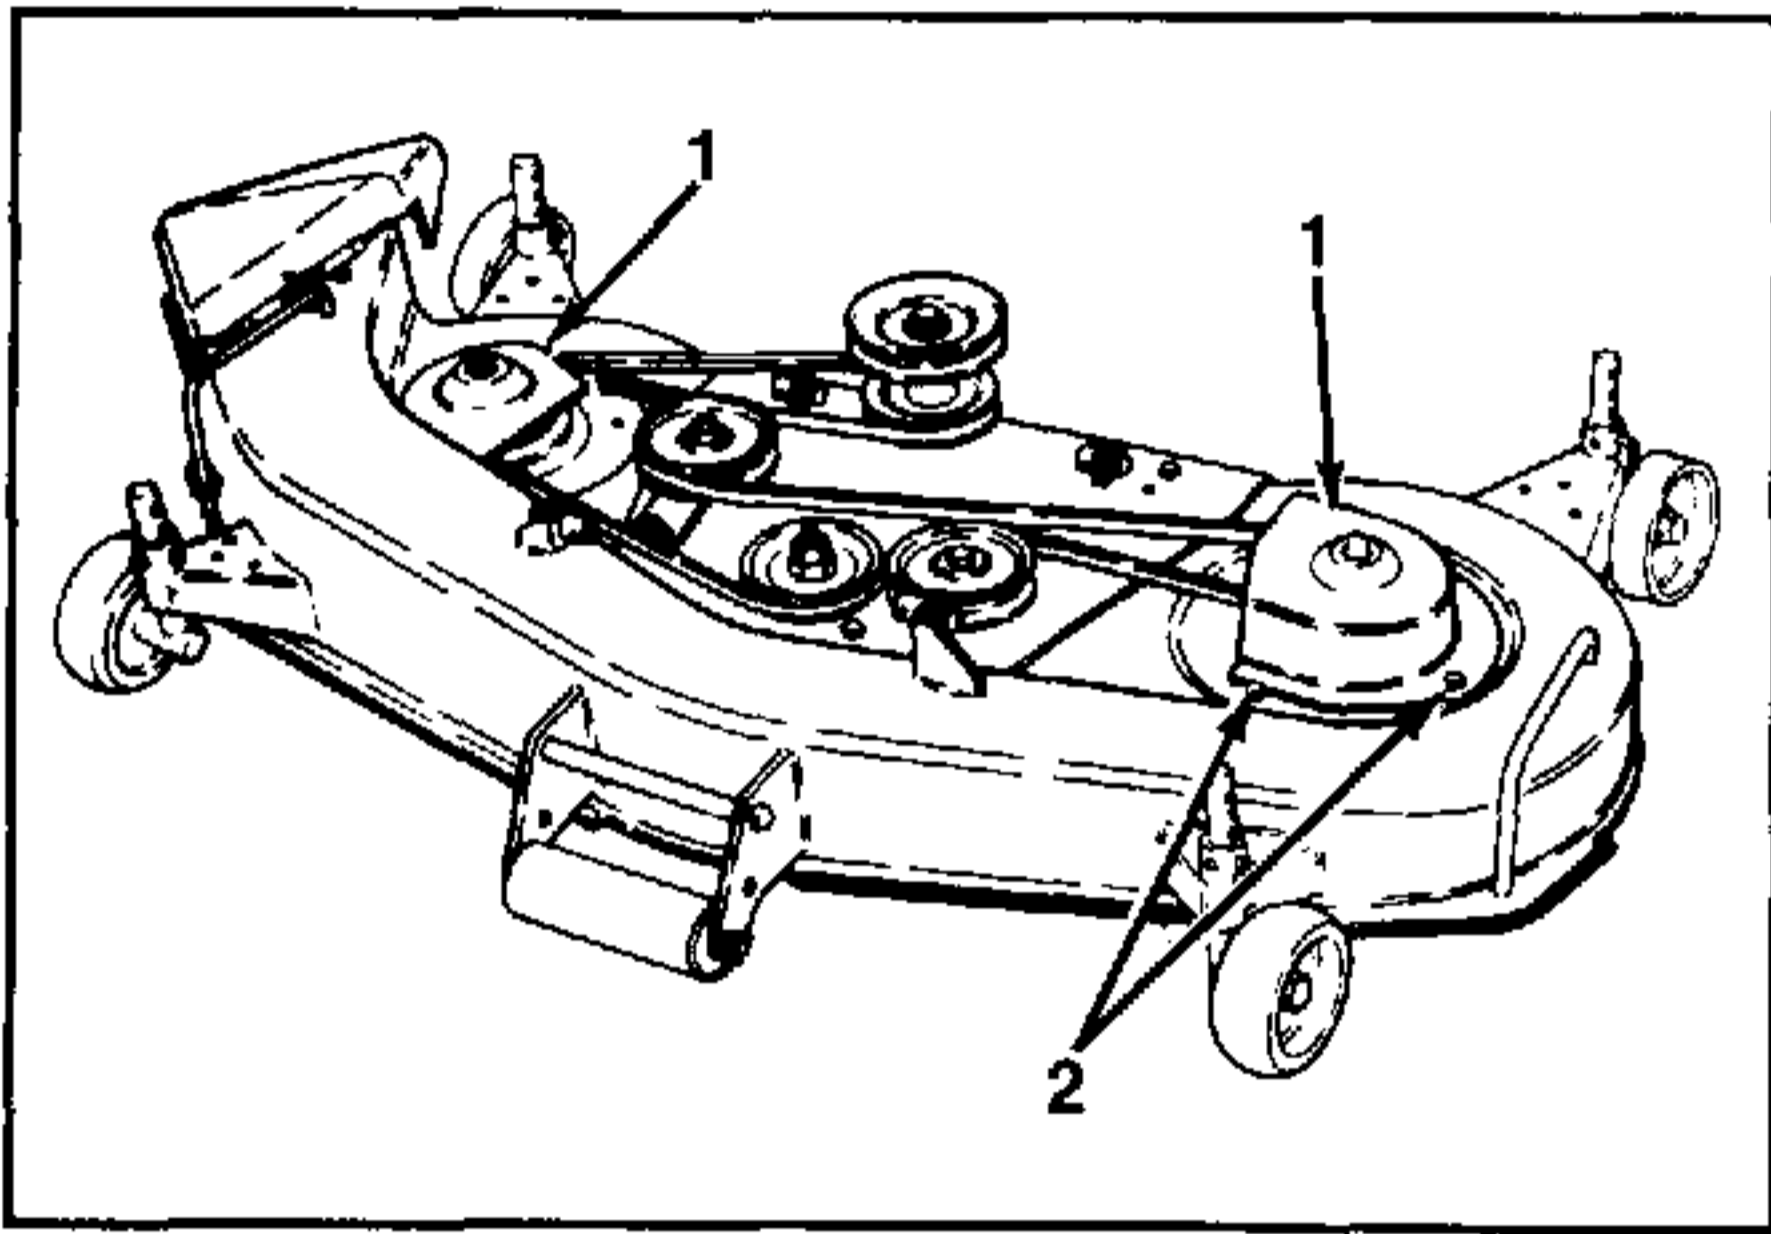

FIGURE 24.
In order to replace the spindle drive belt, refer to figures 24, 25, and 26 and proceed as follows:
5. Install a new belt. Refer to figures 24, 25, and 26 for proper placement of belt. Push against idler pulley to aid the installation.